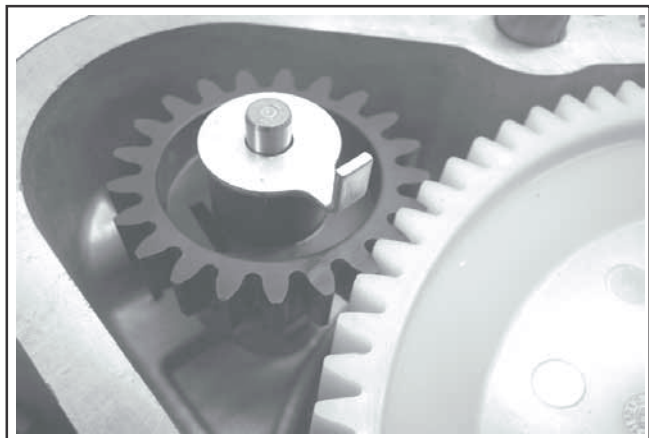

Figure 10-28. Tabbed Washer Details.
4. Ensure the end of the tabbed washer on the governor gear is positioned **outward** in the 6 o'clock position inside the crankcase. See Figure 10-28.